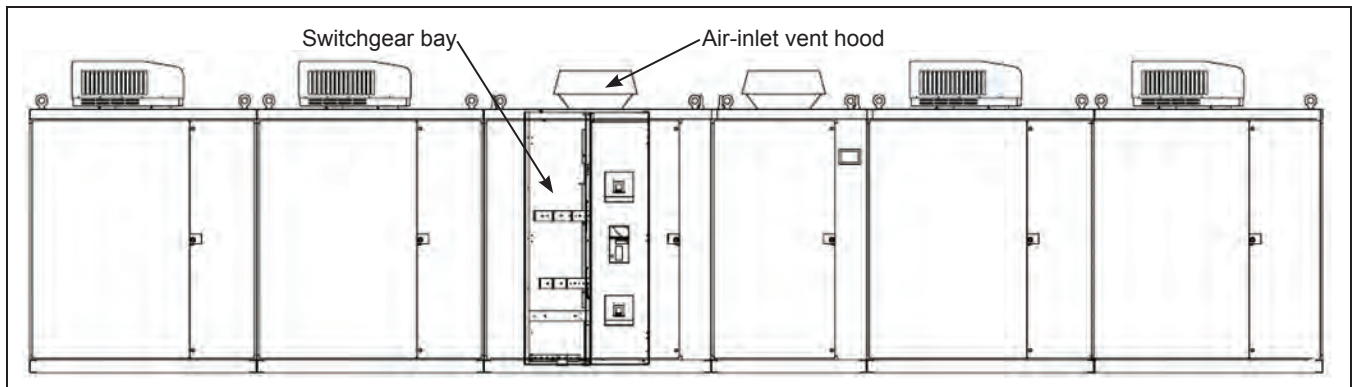

Figure 27. Location of the air-inlet vent hood.
- ☐ Inspect the air-inlet vent hood at the top of the switchgear bay. Clean any debris or obstructions that can restrict air flow going into the PureWave UPS System. See Figure 27 for an example of a 1000-kW PureWave UPS System.